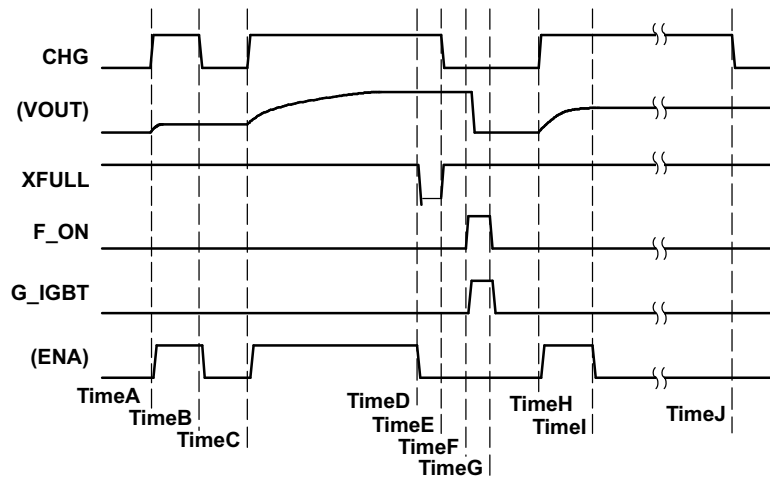

Figure 4. Whole Operation Sequence Chart
The only way to *start* charging is to input $\text{CHG}\uparrow$ (see time A/C/H in Figure 4). Each time $\text{CHG}\uparrow$ is applied, the TPS65560 starts charging.
1. Forced *stop* by inputting $\text{CHG} = \text{L}$ from the controller (see timeB in Figure 4).
2. Automatic *stop* by detecting a full charge. VOUT reaches the target value (see TimeD in Figure 4).
3. Protected *stop* by detecting an over current function (OV_{DS}) trigger at SW pin (see TimeI in Figure 4).
The device starts charging at *timeH*, and OV_{DS} protection occurs at *TimeI* (see Figure 4). At *TimeI*, XFULL stays H. At *TimeJ*, the controller detects OV_{DS} protection through the expiration of a timer ends and then sets CHG to low to terminate the operation.
The TPS65560 provides an overvoltage monitor function of the SW pin. The TPS65560 is latched off if the voltage on the SW pin is above OV_{DS} during the switch ON time (see Figure 4 and its descriptions).